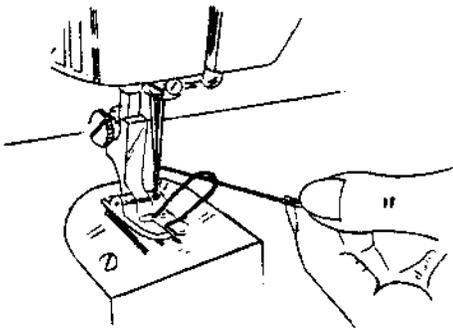

Fig. 19
8. Thread needle FROM LEFT TO RIGHT, drawing it through about 3 or 4 inches. Hold the end of the upper thread loosely and turn the hand wheel toward you until the needle goes all the way down and comes back up. A loop will be formed over the upper thread which then can be pulled out straight. Place both thread ends under the slot of the presser foot and draw toward the back of the machine, leaving both threads three or four inches long. (Figs. 19 and 20, Page 12)